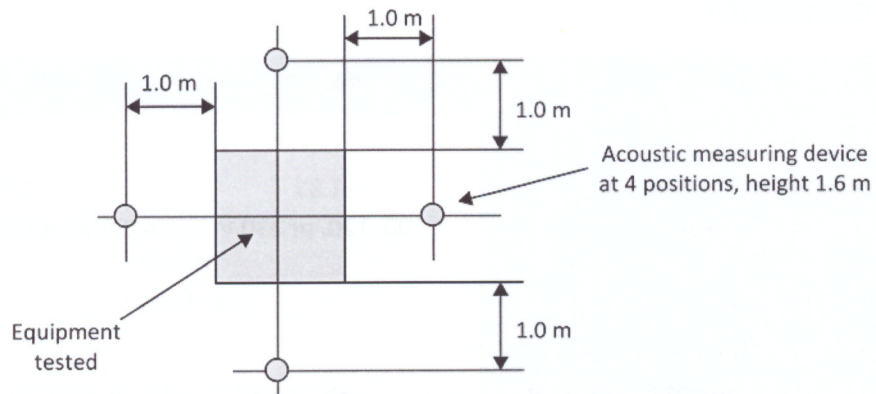

Figure 2 Noise measurement – plan view
6. The determination of noise levels is a varied and complex procedure. Figure 2 shows the conditions under which the values stated were obtained.